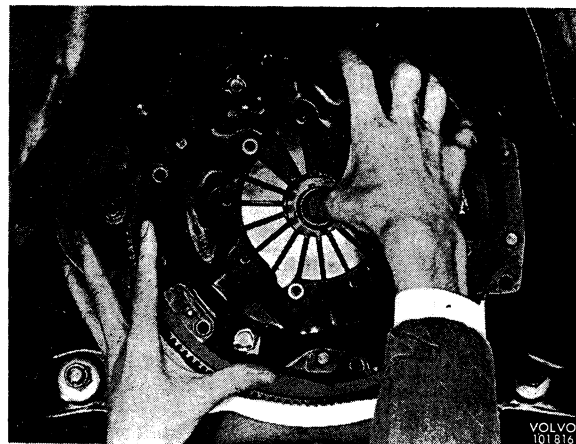

Fig. 4-4. Removing clutch
6. Slacken the bolts holding the clutch to the flywheel by loosening them crosswise a couple of turns at a time to prevent warping. Remove the clutch and clutch plate. See Fig. 4-4.